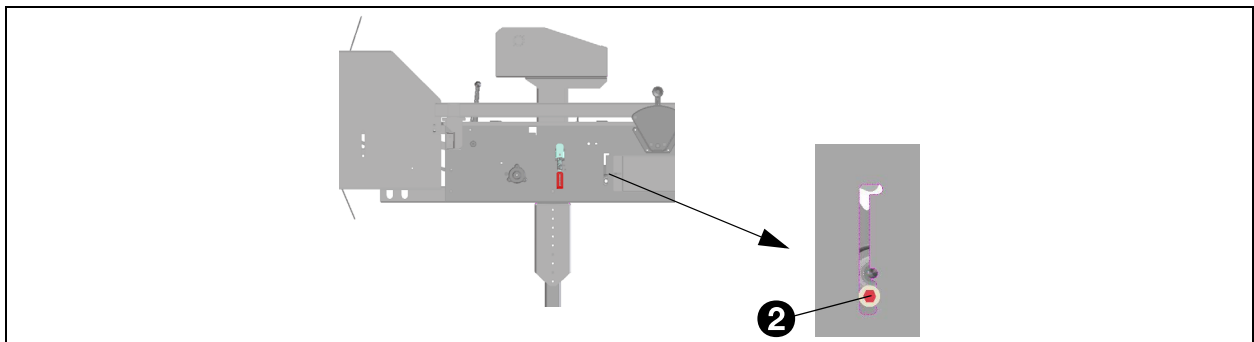

Fig. 182 - Location of the gear-wheel adjustment
3. Reposition the gear wheel (2) on the infeed-side of the packing conveyor downward by 1 hole. See fig. 182.